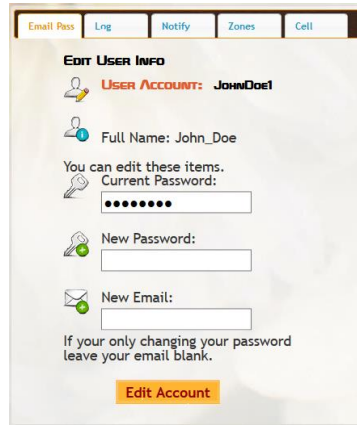

Fig. 31
1. On the Email Pass tab in useredit page you can set change your password and email.(See fig. 31) Remember that your email can't be the same as any other user.